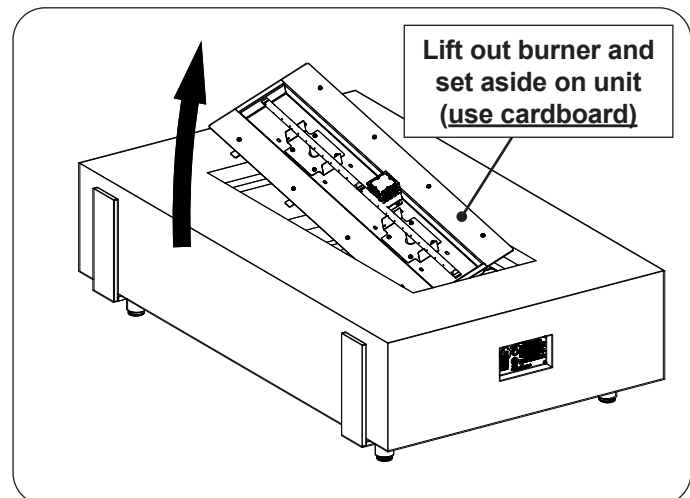

Fig. 34-4 Gain access to interior
8. Carefully lift out the burner just enough to set it off to the side (see Fig. 34-4).